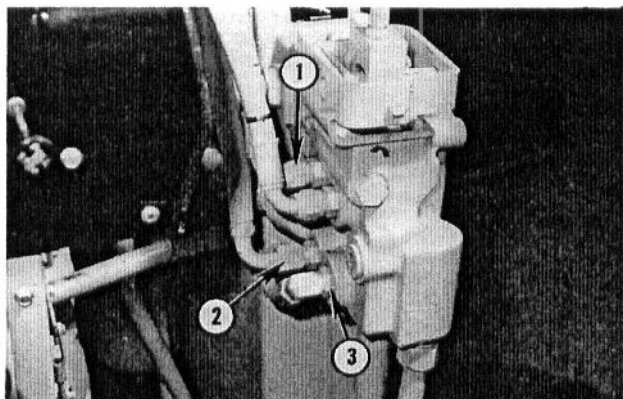

Fig. 23 — Valve Ports (Location of Circuit Reliefs)
- a. Connect a suitable hand pump with a 5000 psi pressure gauge attached to the control valve work port containing the circuit relief to be checked ... cylinder to be disconnected from valve port, see Fig. 23.